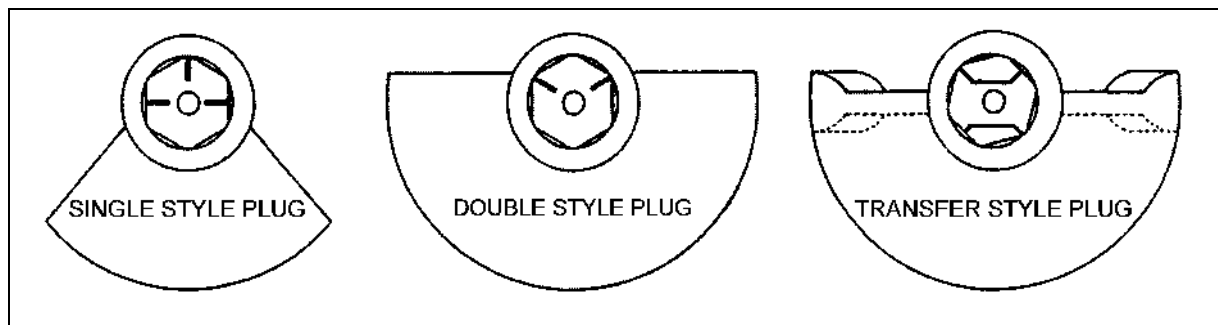

Figure 1— Plug Stem Stampings
9. Note the stampings on the top of the valve plug stem. These stampings correspond with the plug face as shown in Figure 1. It is important that the plug position be noted to ensure it is in the correct position during ACTUATOR INSTALLATION.